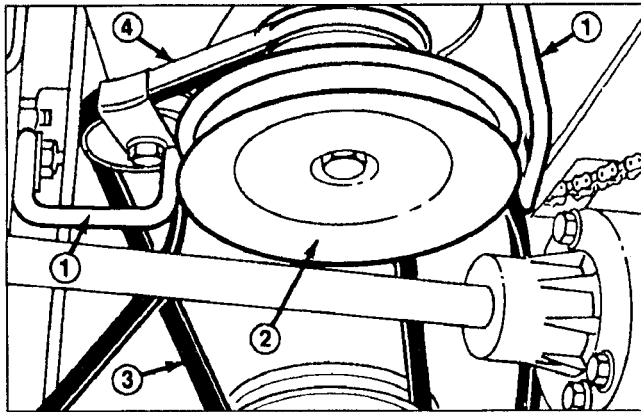

Figure 23
2. Set height-of-cut control to lowest setting and loosen belt guides near engine pulley. Remove belt from engine pulley (Fig. 23).
3. Loosen and remove (1) mounting screw securing each belt guide to cutting unit. Pivot belt guides away from spindle pulley and remove belt. Visually inspect belt for wear or damage (Fig. 23).
4. Replace belt guides for transmission pulley and retighten belt guides on engine pulley. Install belt retainer on idler pulley positioned toward rear as shown in Figure 23.